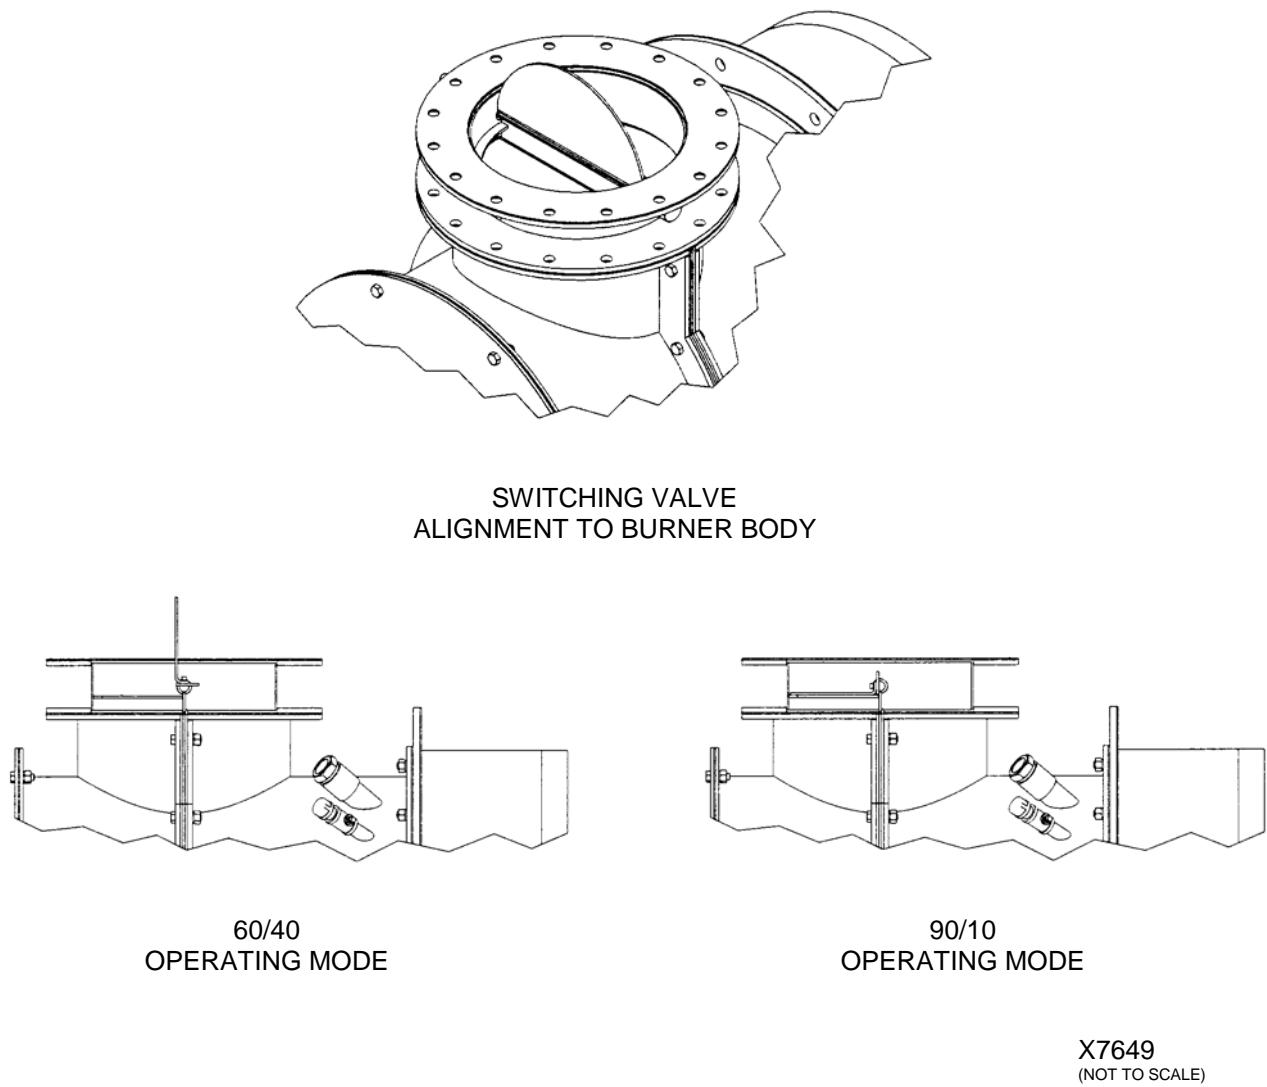

Figure 2. Switching Valve Alignment/Operating Mode
1. If using the optional switching valve assembly, sandwich the supplied gasket between the switching valve and the burner air inlet; use 5/8" (16 mm) bolts to secure the switching valve to the main air inlet. Note the burner and switching valve assembly have an RPM flange which is one pipe size larger than the switching valve I.D. (see Hauck dimension sheet TriOx-3). Ensure that the plate running through the center of the switching valve matches up to the center divider plate in the burner body to provide a metal to metal seal for the valve (see Figure 2).